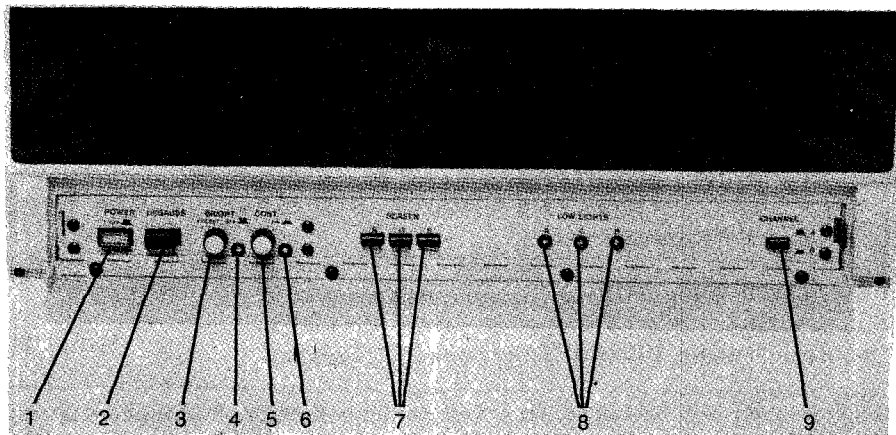

Figure 3-1. Location of Controls and Indicators
- **Controls and Indicators.** — A list of operator controls and indicators together with a brief description is given in table 3-1. The locations of the controls and indicators are shown in figure 3-1.